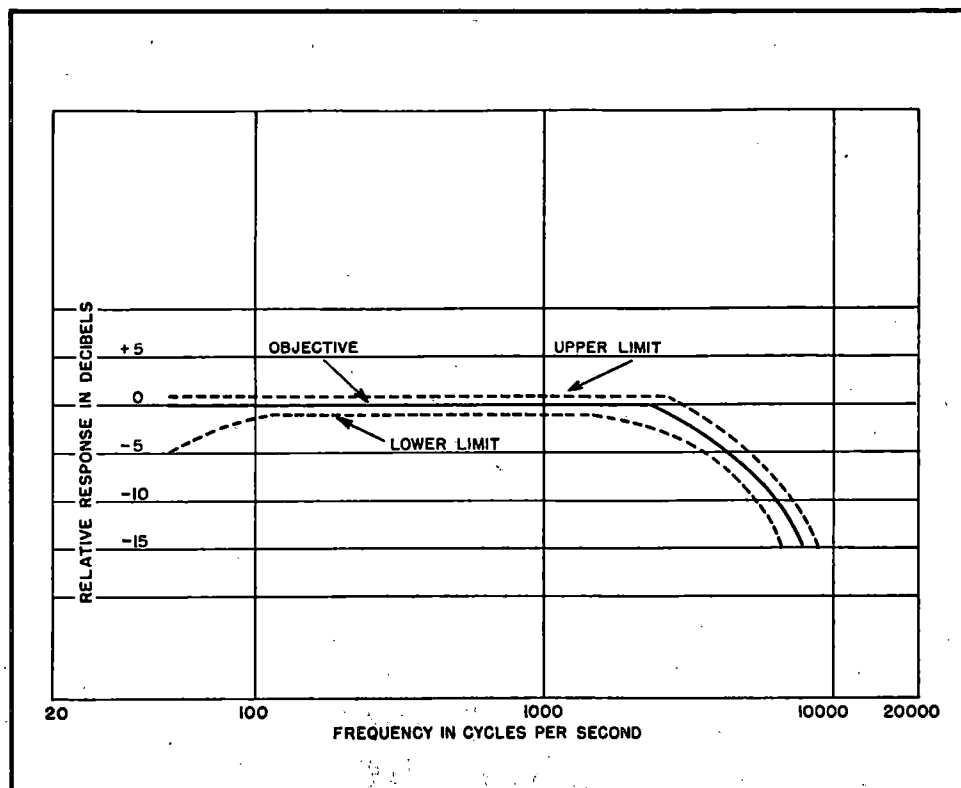

Figure 20. Projector Frequency Response Characteristics
**75. OVERALL FREQUENCY RESPONSE MEASUREMENTS.** Measurements of the overall frequency response of the system, including the projector, cannot be made without multi-frequency test film. This measurement should be made whenever the sound system is repaired, and the overall response should never exceed limits shown in figure 20.
**NOTE:** Color prints may be released for use with the emulsion on either side of the film base. Reproduction must be the same in either position for best intelligibility. Frequency response curves should be made by running the film normally, and then reversing the test film and running it through the projector. In both cases, the resulting curves should fall within the limits shown in figure 20.